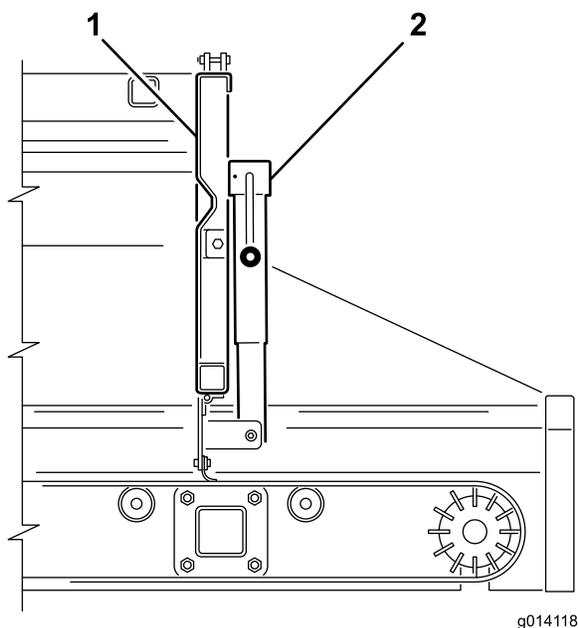
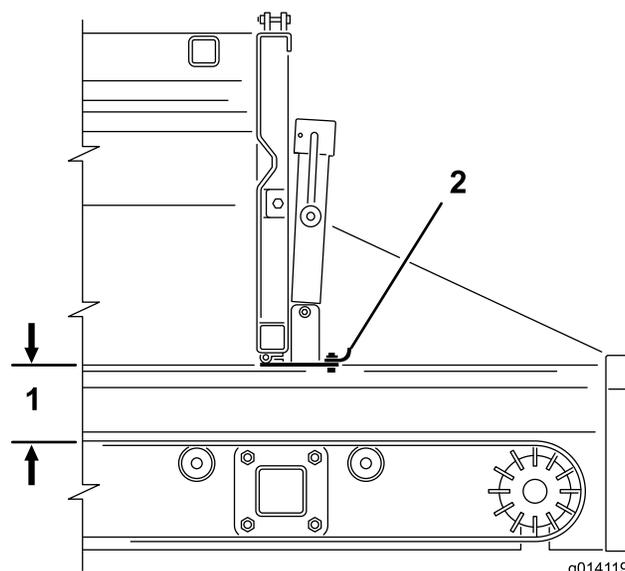

Figure 27
Figure 28
2. Use the jack handle to open or close the adjustable section of the rear gate (Figure 27 and Figure 28). This restricts the flow of materials when using an option.